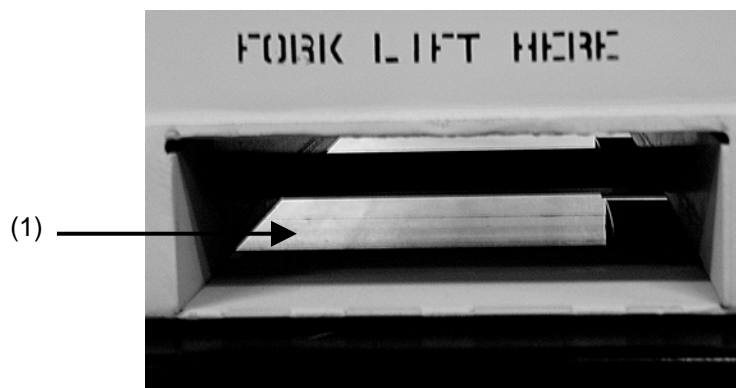

Figure 2-24. Forklift tubes in container base.
Use a ground guide to ensure that forklift tines enter forklift tubes (1) in container base. (Labeled FORKLIFT HERE – Fig. 2-24)